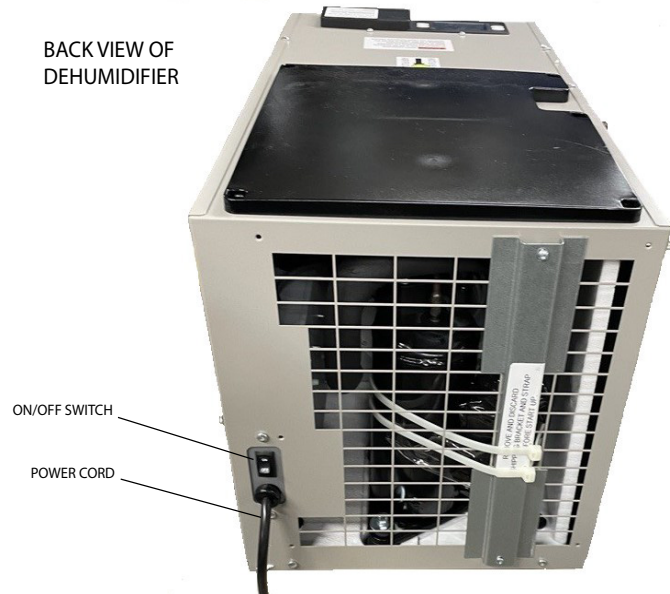

Fig. 1 – Back View of Dehumidifier
1. Use the ON/OFF Power Switch, located by the power cord, to apply power to the dehumidifier. (Fig. 1)
2. Loosen the retaining screw on the filter access door (**Fig. 1**) from the drain side of the dehumidifier until it releases and then remove the filter door.